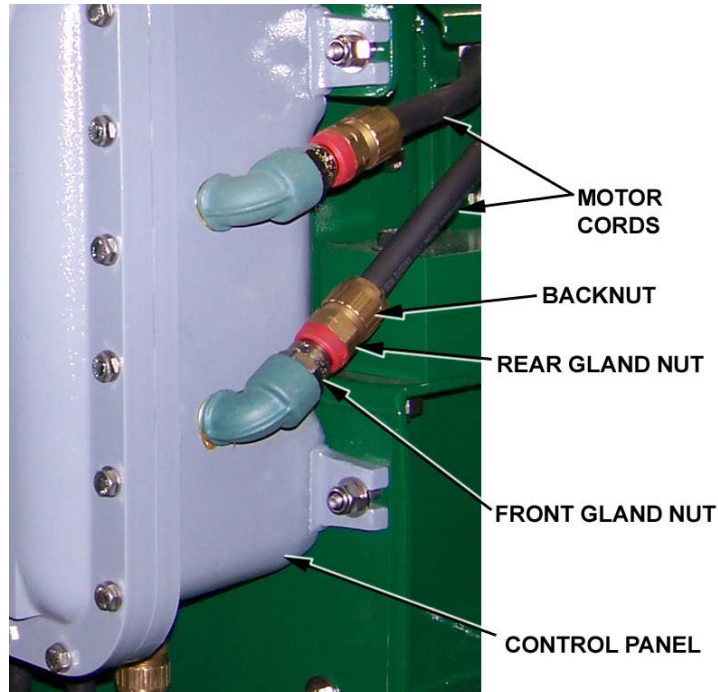

Figure 5. Typical Motor Cord and Gland Installation in Control Panel
2. Pass leads through elbows and into control panel (Figure 5).